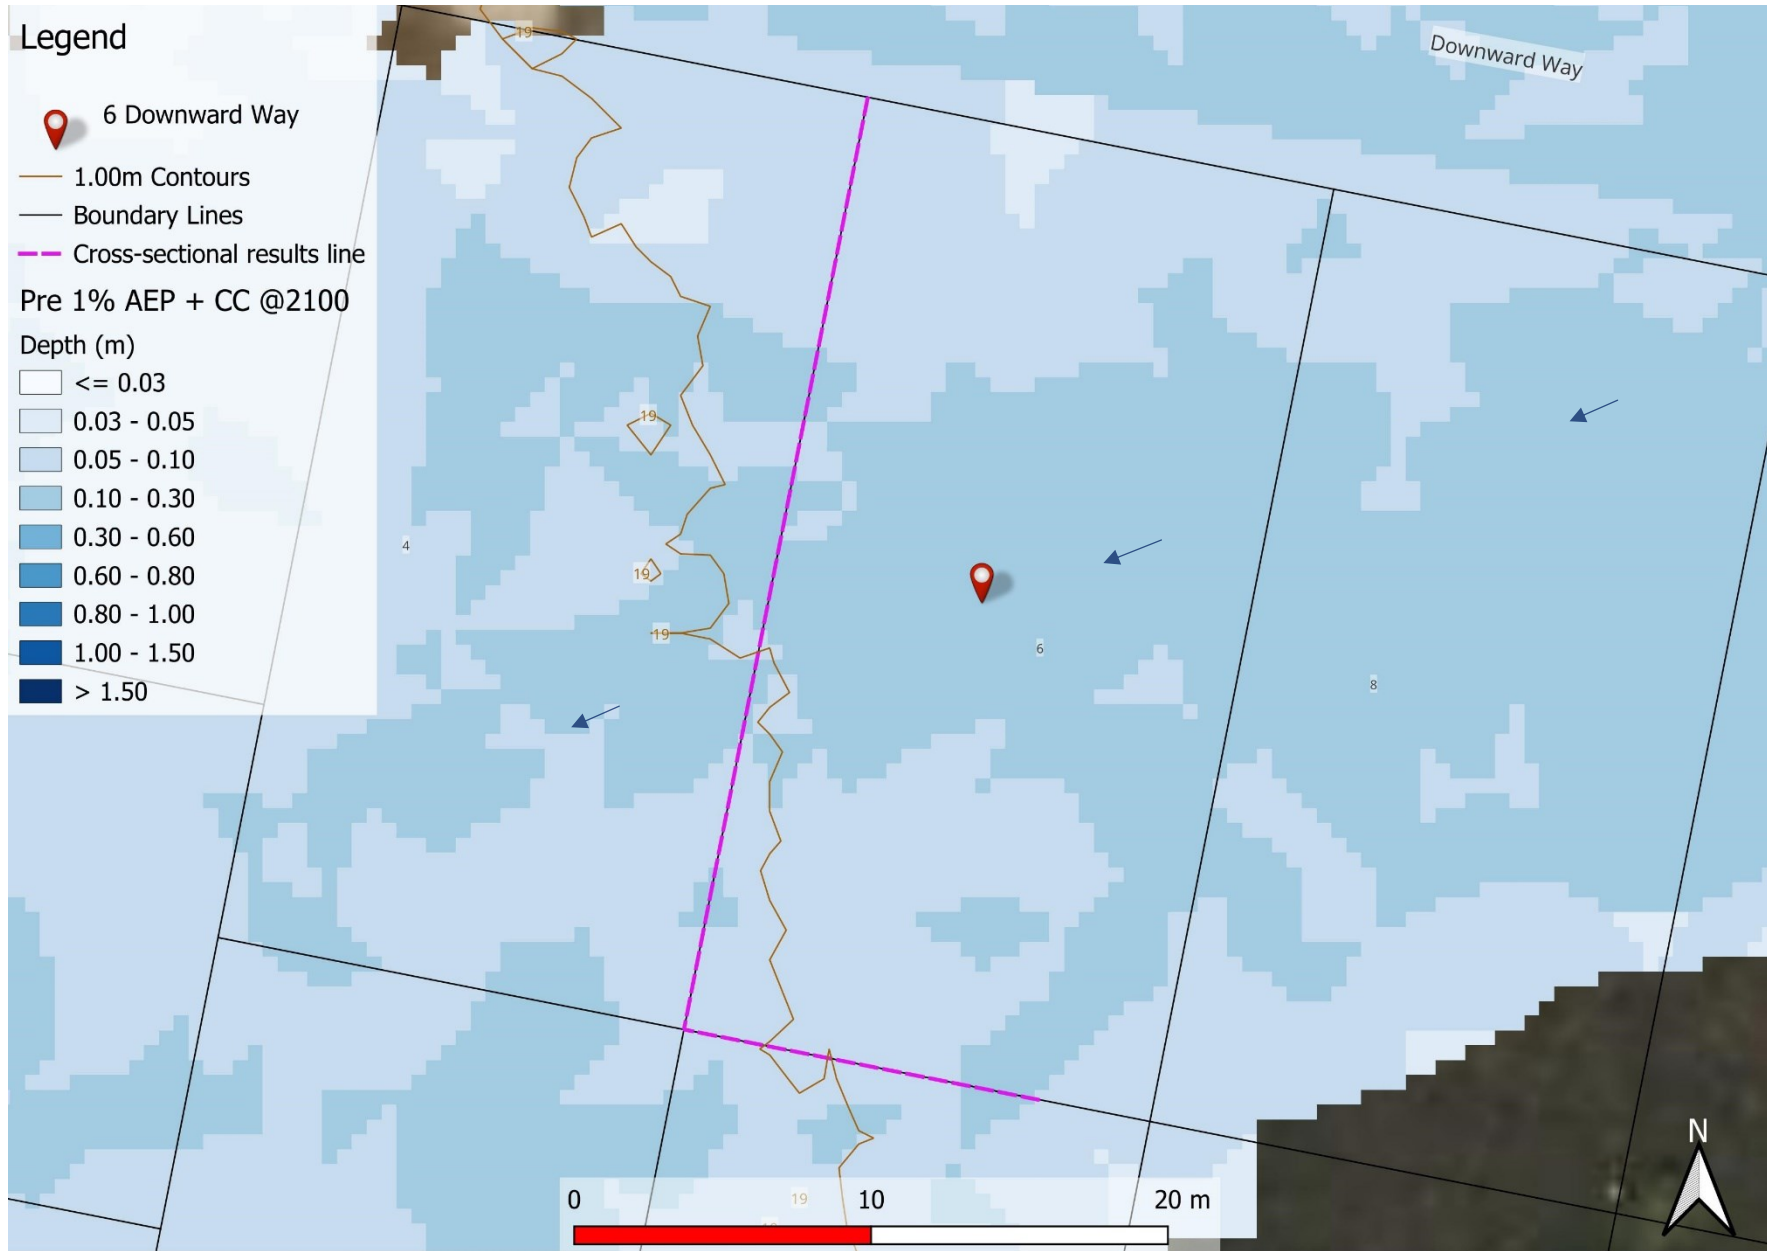
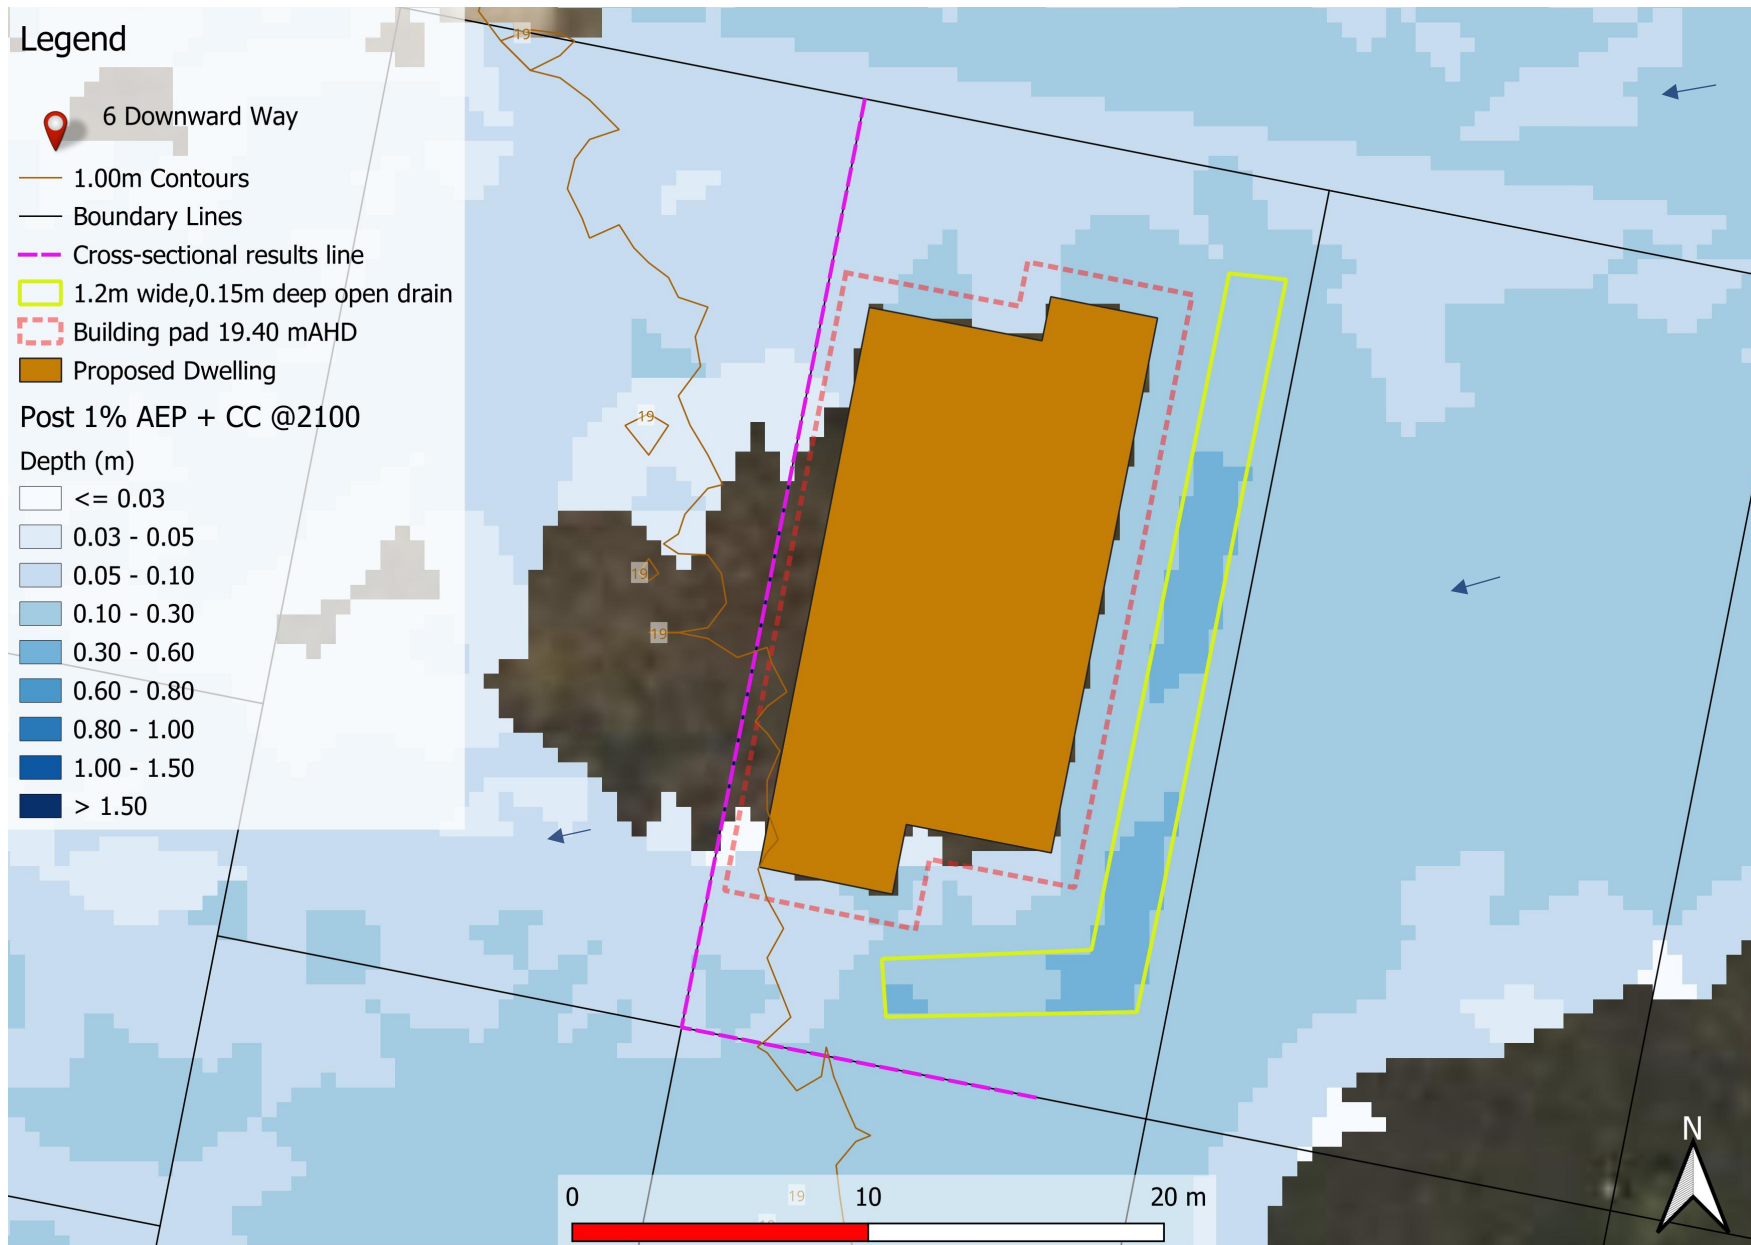

Figure 4. Pre-Development 1% AEP + CC Depth
Figure 5. Post-Development 1% AEP + CC including Depth
The result of 1% AEP + CC were run through the pre-development and post-development model scenarios to compare the changes to flooding onsite and to surrounding properties. It can be seen from the pre-development model runs (Figure 4), that there is a shallow overland flood path flowing from the northern and eastern lot boundary with maximum flood depths of 0.12 m observed at the cross-sectional results line. The maximum depth in the pre-development scenario within the lot is 0.18 m observed within the centre of the lot.
Figure 5 shows the effect that the inclusion of the proposed development has on the overland flood flow. A 1.2 m wide, 0.15 m deep open drain is recommended to be constructed adjacent to the eastern lot boundary to alleviate flood depths surrounding the proposed dwelling.
Post-development flows in Figure 5 show that when compared against pre-development in Figure 4, there is only a small increase of 0.06 m in flood depths on adjacent properties to the south and west of the development lot, with the overland flow continuing towards the natural overland flow path. However, the lots to the south and west are already affected by this overland flood path, and any observed increase in flood depths is only minimal and does not contribute to any increase in flood hazard.
1. A new 1.2 m wide, 0.15 m deep open drain to be constructed along the eastern and northern lot boundary shown in Figure 5.